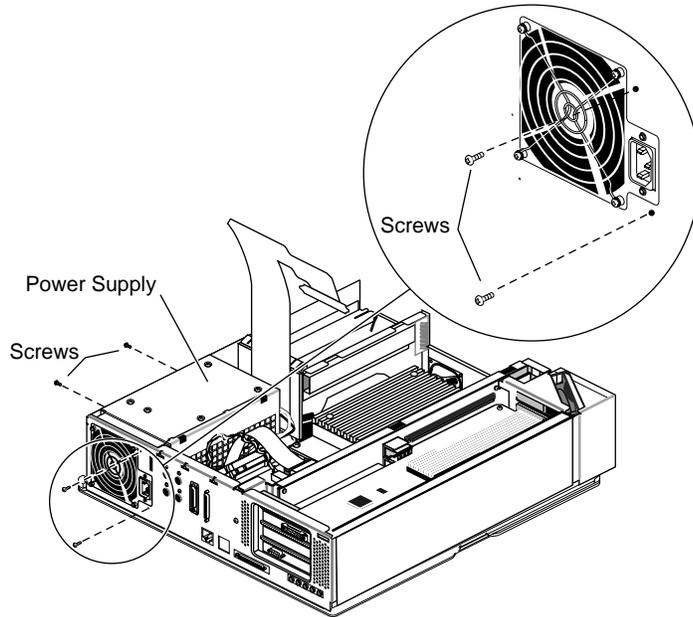

Figure 2-9 Removing the Power Supply Screws
- Move the workstation, or position yourself so that you are facing the back of the workstation. The power supply is located on the left, as shown in Figure 2-9.
- Remove the two screws from the back of the chassis. The two screws on the back of the chassis are offset. See Figure 2-9.
- Remove the two screws from the side of the chassis. See Figure 2-9.